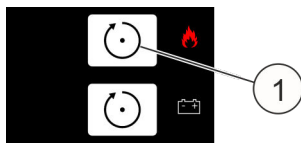

Fig. 20: [Reset] button
30. ▶ Reset the alarm with the upper [Reset] button (Fig. 20 /1).